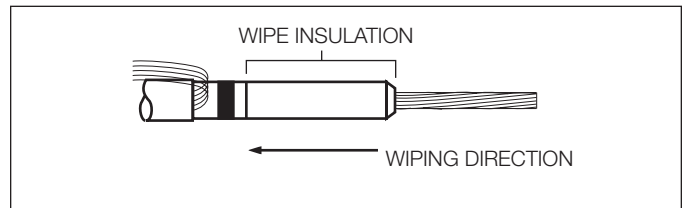

Figure 7.
- Clean insulation thoroughly with solvent dampened rag, wiping from conductor end toward insulation shield. (Refer to Figure 7.)